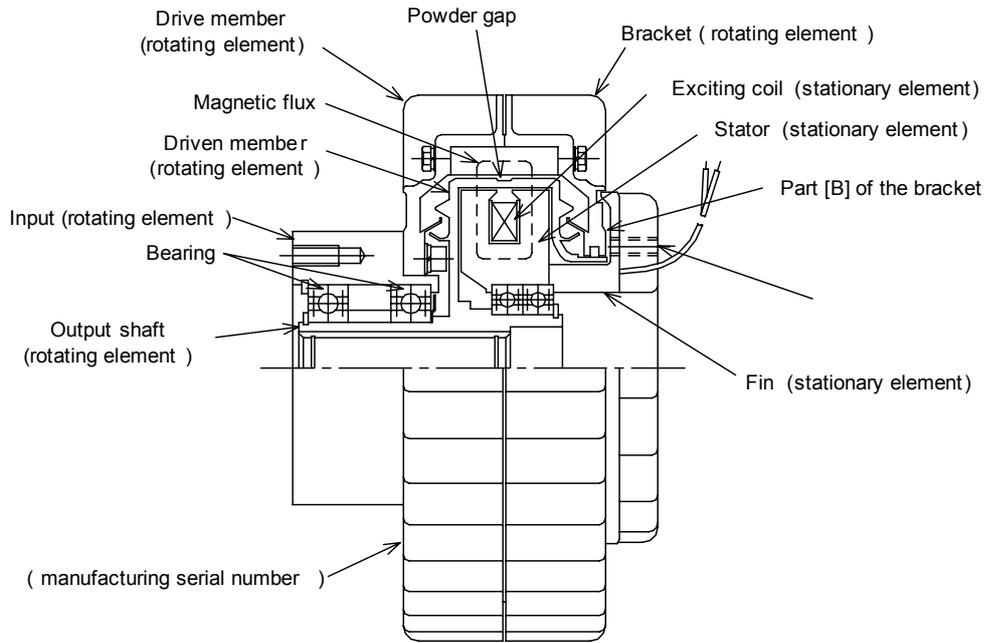

Fig. 1 Structural diagrams of ZA-A powder clutches
- The clutch structure is shown in Fig. 1. The drive member linked to the input side and the driven member linked to the output side are disposed concentrically across a powder gap.
- (3) For coupling with the load shaft, use an elastic coupling.
- (4) For pulley coupling, pay attention to the belt tension, and never apply initial tension more than necessary.
- (5) Use screw 1 of the fin side of the clutch, and lock the stator without applying excessive force. Complete fixing may break the bearing or other parts. The effective dimension of this screw is shown in Fig.1, but if longer than necessary, it must be noted that it may interfere with part B of the bracket.
- (6) The voltage polarity is not specified.